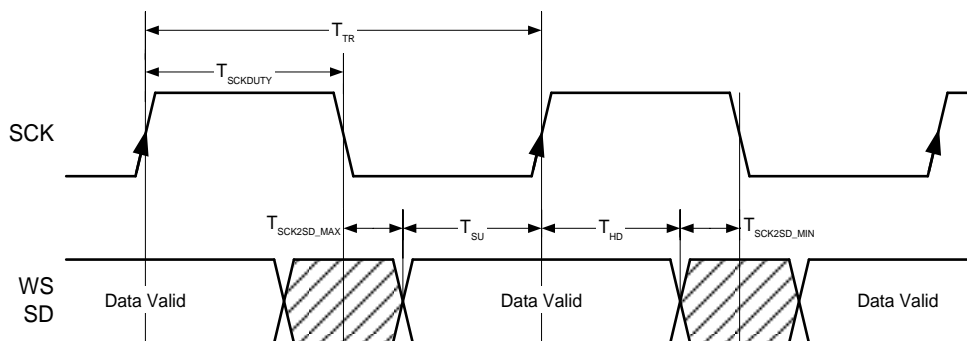

Figure 4.8. I2S Output Timings
- Refer to Figure 4.8. Meets timings in Philips I2S Specification.
Valid serial data is available at  $T_{\text{sck2sd}}$  after the falling edge of the first SCK cycle, and then captured downstream using the active rising edge of SCK one clock period later. The setup time of data to SCK ( $T_{\text{SU}}$ ) and hold time of SCK to data ( $T_{\text{HD}}$ ) are therefore a function of the worst case SCK-to-output data delay ( $T_{\text{sck2sd}}$ ). Figure 4.8 illustrates this timing relationship. Note that the active SCK edge (rising edge) is shown with an arrowhead. For a falling edge sampling clock, the logic is reversed.